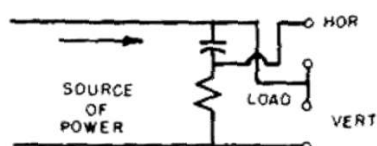

FIG. 9
**5—POWER MEASUREMENT**—Figure 9 shows the method of connection.  $R$  is the load resistor and  $C$  is the capacity. The deflection along the vertical axis is proportional to the load voltage, and along the horizontal axis, to the charge on capacity  $C$ . The resultant diagram is a closed loop, the area of which is proportional to power. The **FUNCTION** switch should be in **HOR** position.